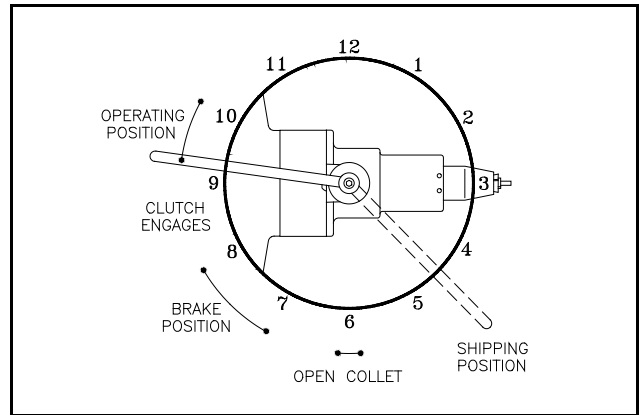

Figure 8. Handle position
- 5.2 Confirm that the Quick Chuck handle is in the shipping position. See Figure 8. Temporarily fasten the Quick Chuck to the adapter with two installation screws.